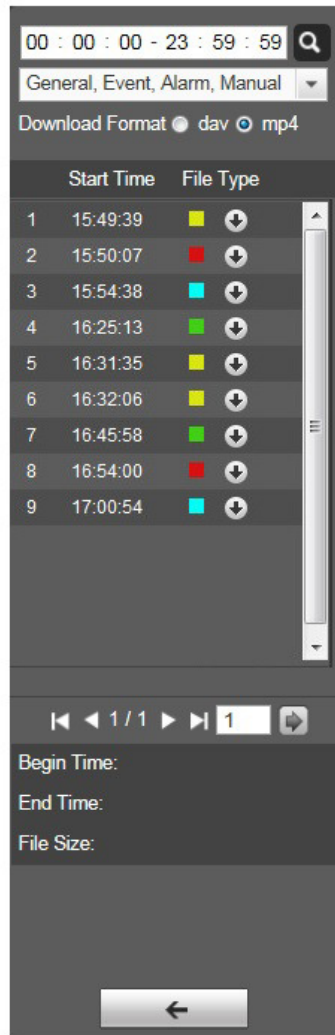

Figure 4-6
Step 4. Double click on file in list, playback this file and display file size, start time and end time. See Figure 4-6.